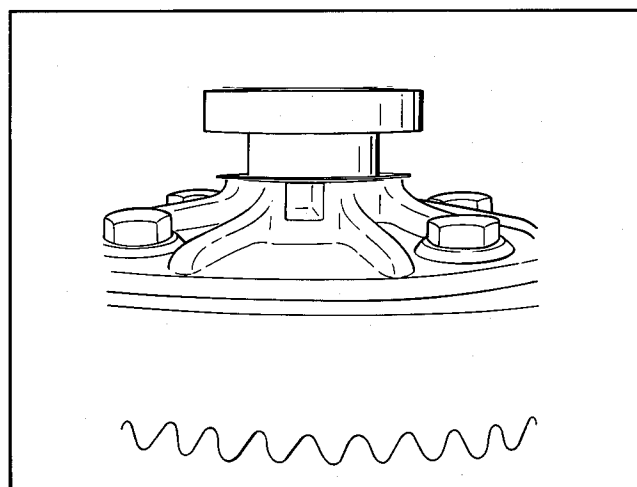

Figure 4-16 – Pressing on Differential Bearings
- e. When installing new differential bearings (8 or 3), original shims (11) may be reused in their original location if they were not damaged during disassembly. If new shims are used, be sure they are the same thickness as originals. Press on inner race of bearing only. See Figure 4-16.